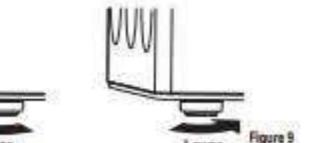

Figure 9
2. Adjust the leveling feet. Turn clockwise to raise the washer or counterclockwise to lower it. (Figure 9)